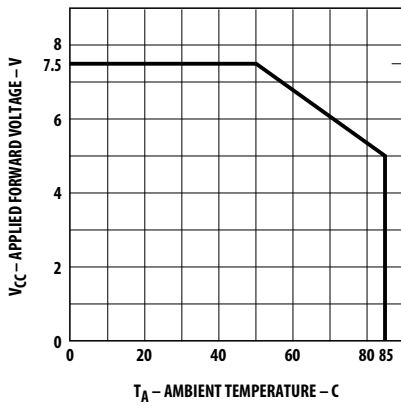

Figure 3. Maximum allowed applied forward voltage vs. ambient temperature  $R\theta_{JA} = 175^{\circ}\text{C}/\text{W}$ . 5 volt devices.
2. Derate from  $T_A = 50^\circ\text{C}$  at  $0.071 \text{ V}/^\circ\text{C}$ , see Figure 3.